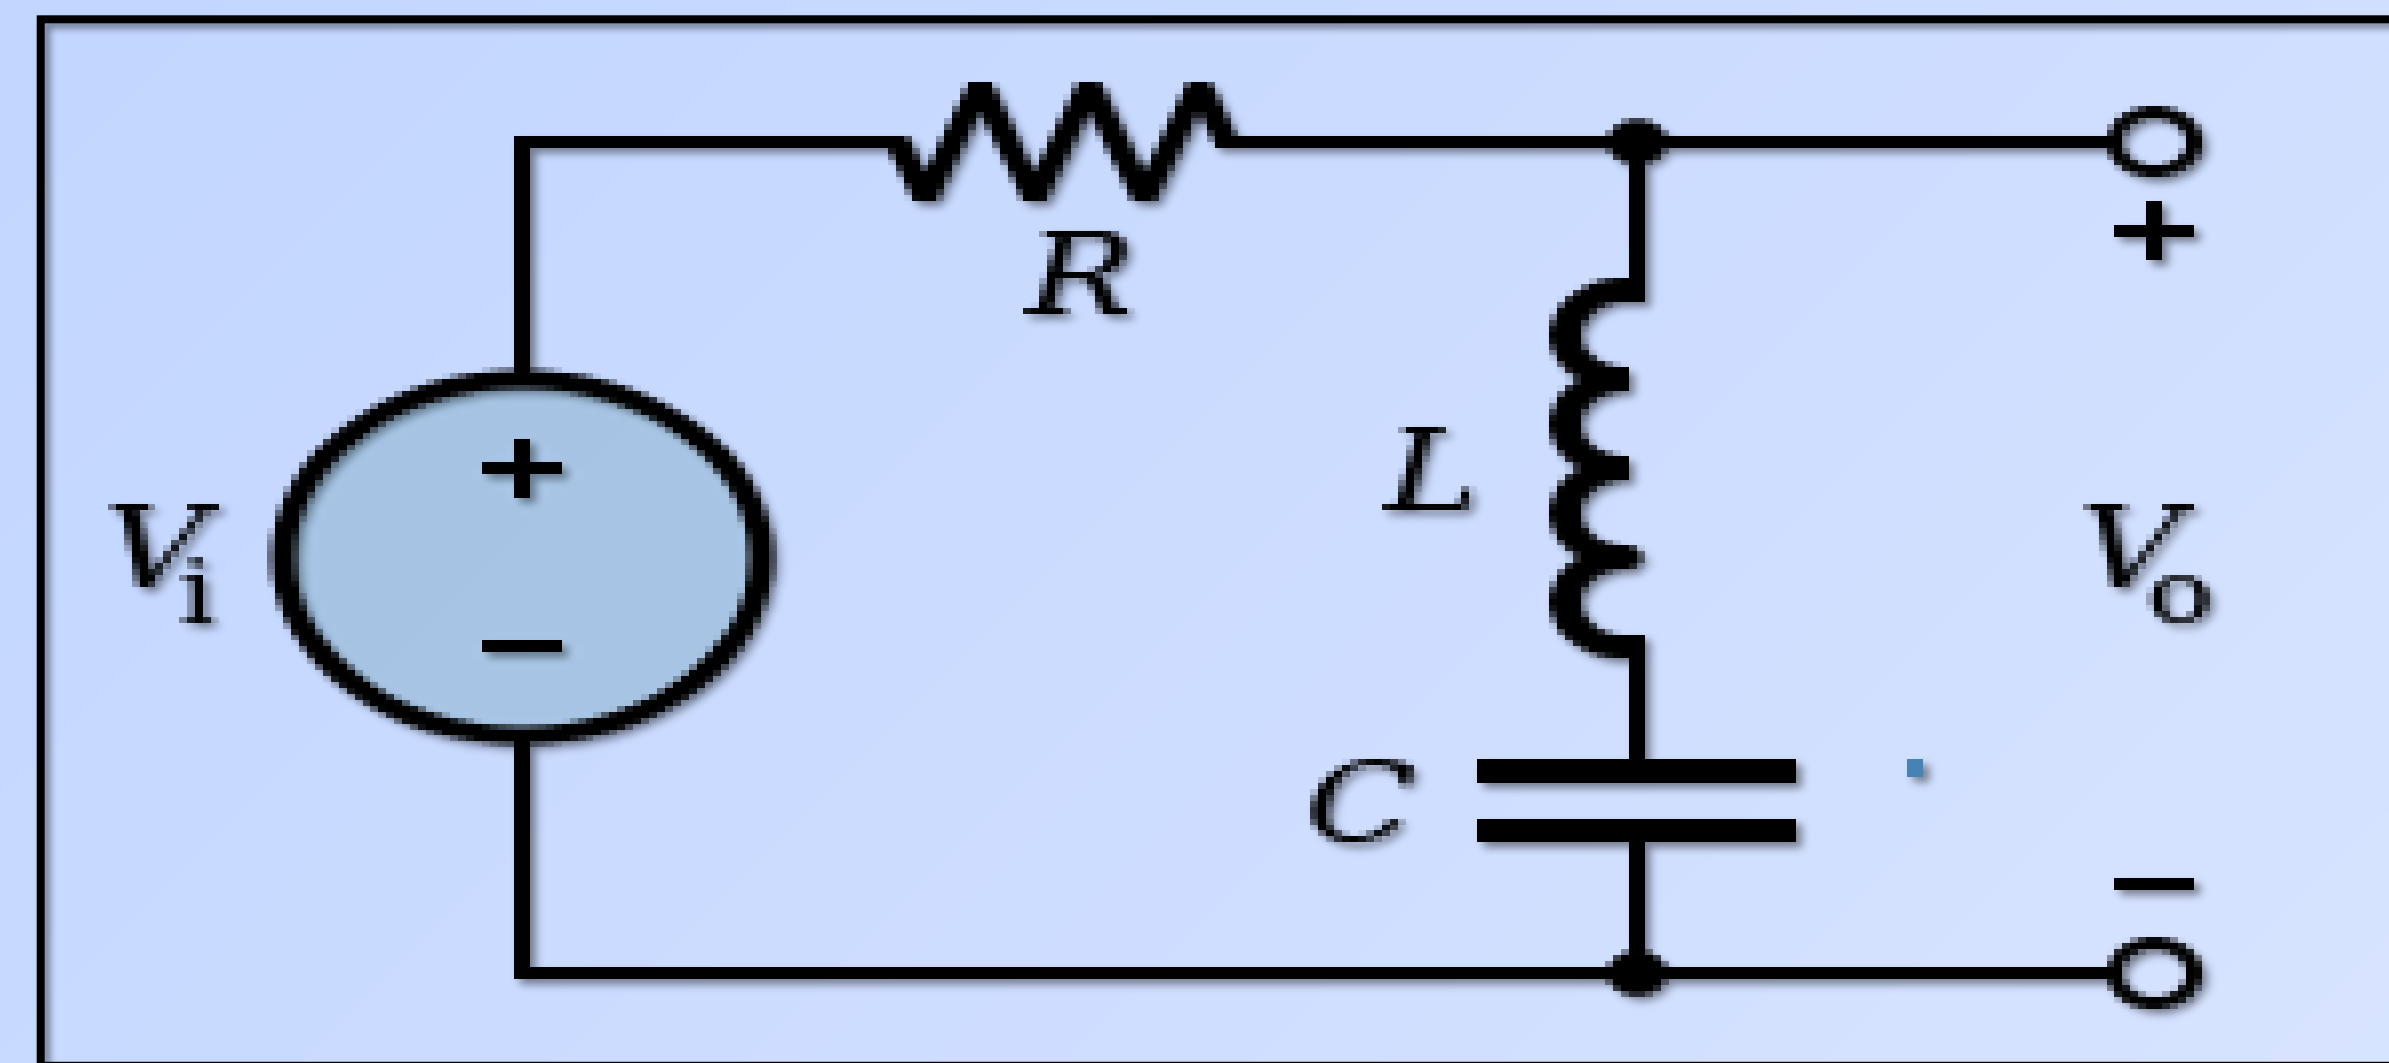

Figure 1 RC band-reject filter
The simplest form of band-reject filter is shown in *figure 1*. It consists of a resistor and a capacitor connected, across an input voltage V_{in} . The output voltage is determined across the capacitor and coil. Assume that the input voltage V_{in} has a fixed rms value but its frequency can be varied.
1. Connect the circuit as shown in *figure 1* such that the output of function generator is connected to channel 1 and the output of band pass filter is connected to channel 2.